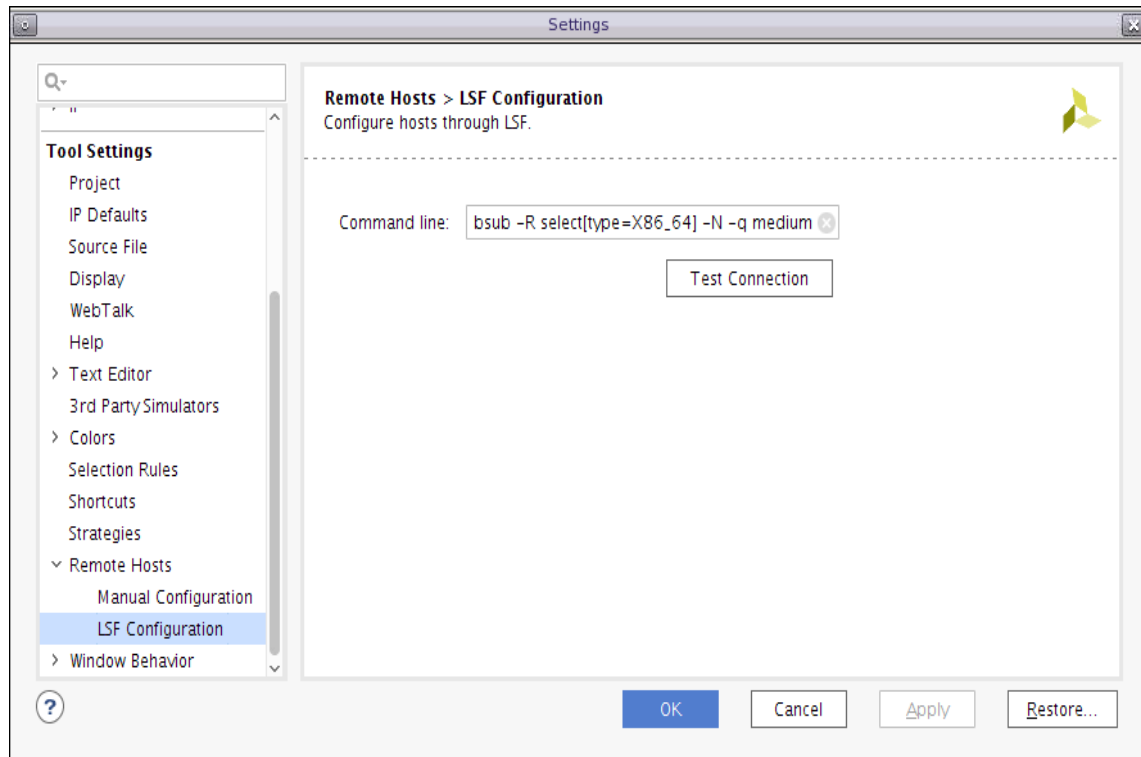

Figure A-2: Settings Dialog Box with Remote Hosts Selected
- As shown in Figure A-2, the Settings dialog box displays, with the Remote Hosts section selected. Select the LSF Configuration.